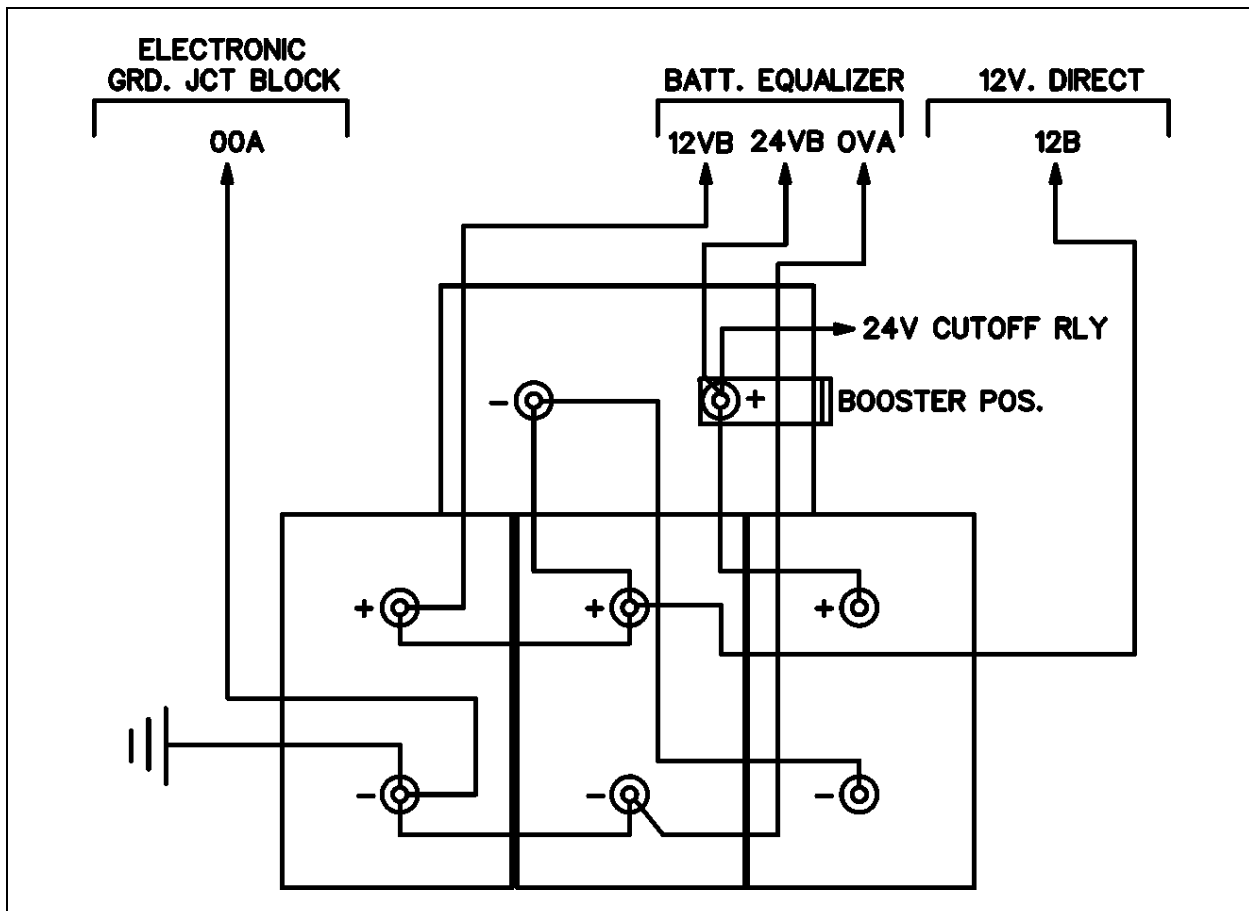

FIGURE 13: BATTERIES CONNECTIONS 06649
The vehicle is provided with four (4) maintenance-free 12 volt heavy-duty batteries connected in series-parallel (Fig. 13). The top-mounted negative and positive terminals are tightly sealed to prevent leaks. Water never needs to be added to this type of battery. There are no filler caps in the cover. The battery is sealed, except for small vent holes in the cover. The vents must not be restricted as they allow small amounts of gases produced in the battery to escape. The special chemical composition inside the battery reduces gassing to a very small amount at normal charging voltages. Besides reducing gassing, the special chemistry greatly reduces the possibility of overcharge damage.
The batteries are located in the engine compartment R.H. side (Fig. 13).
The batteries are located in the engine compartment R.H. side area (Fig. 13).